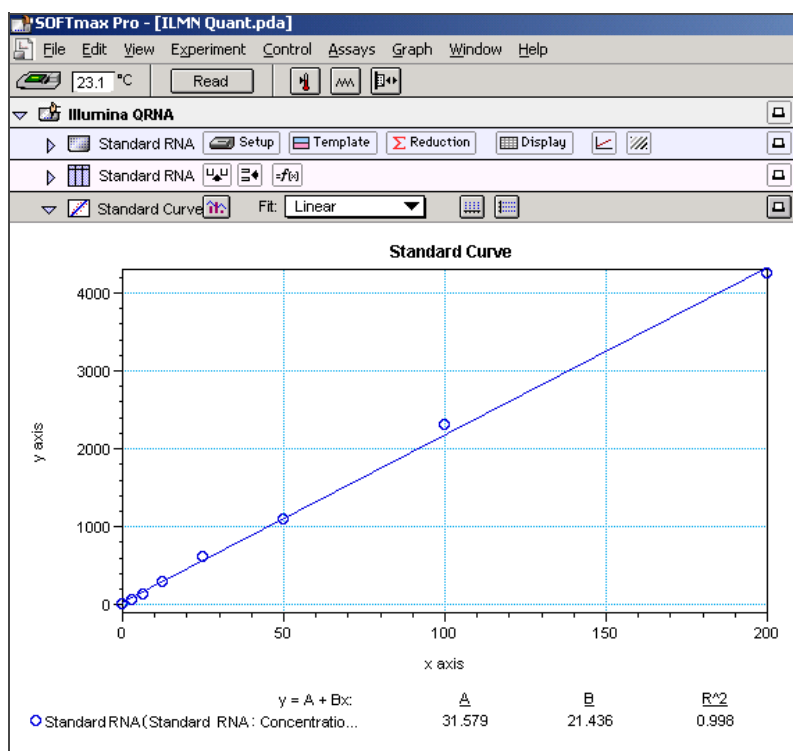

Figure 19 View Standard Curve
- Click the blue arrow next to **Standard Curve** to view the standard curve graph (Figure 19).